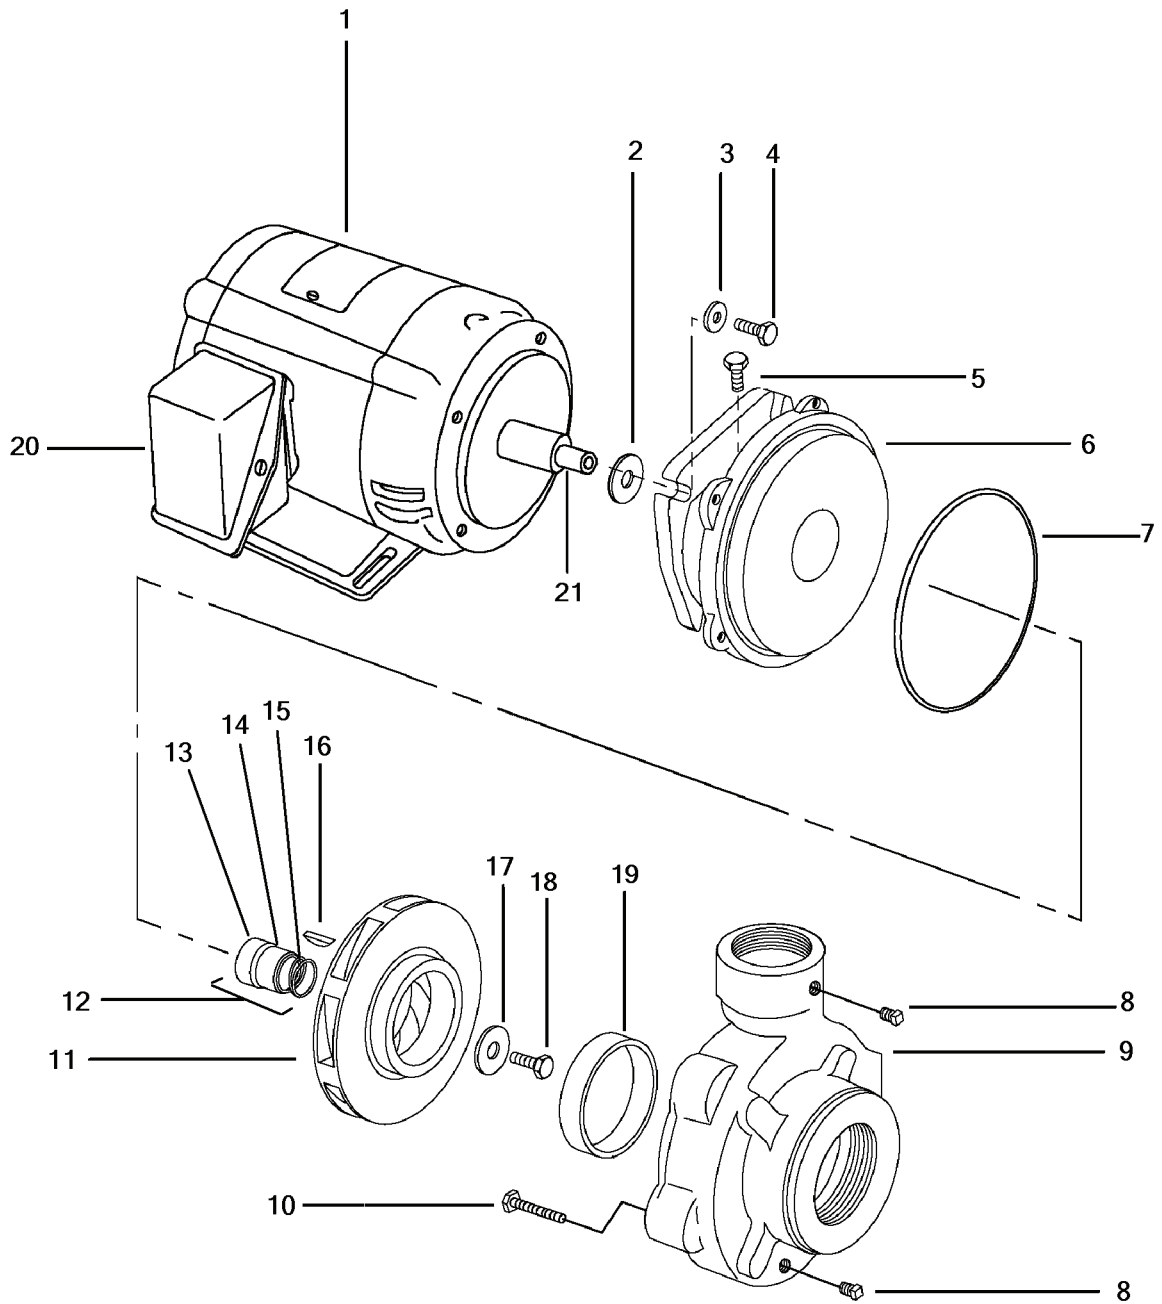
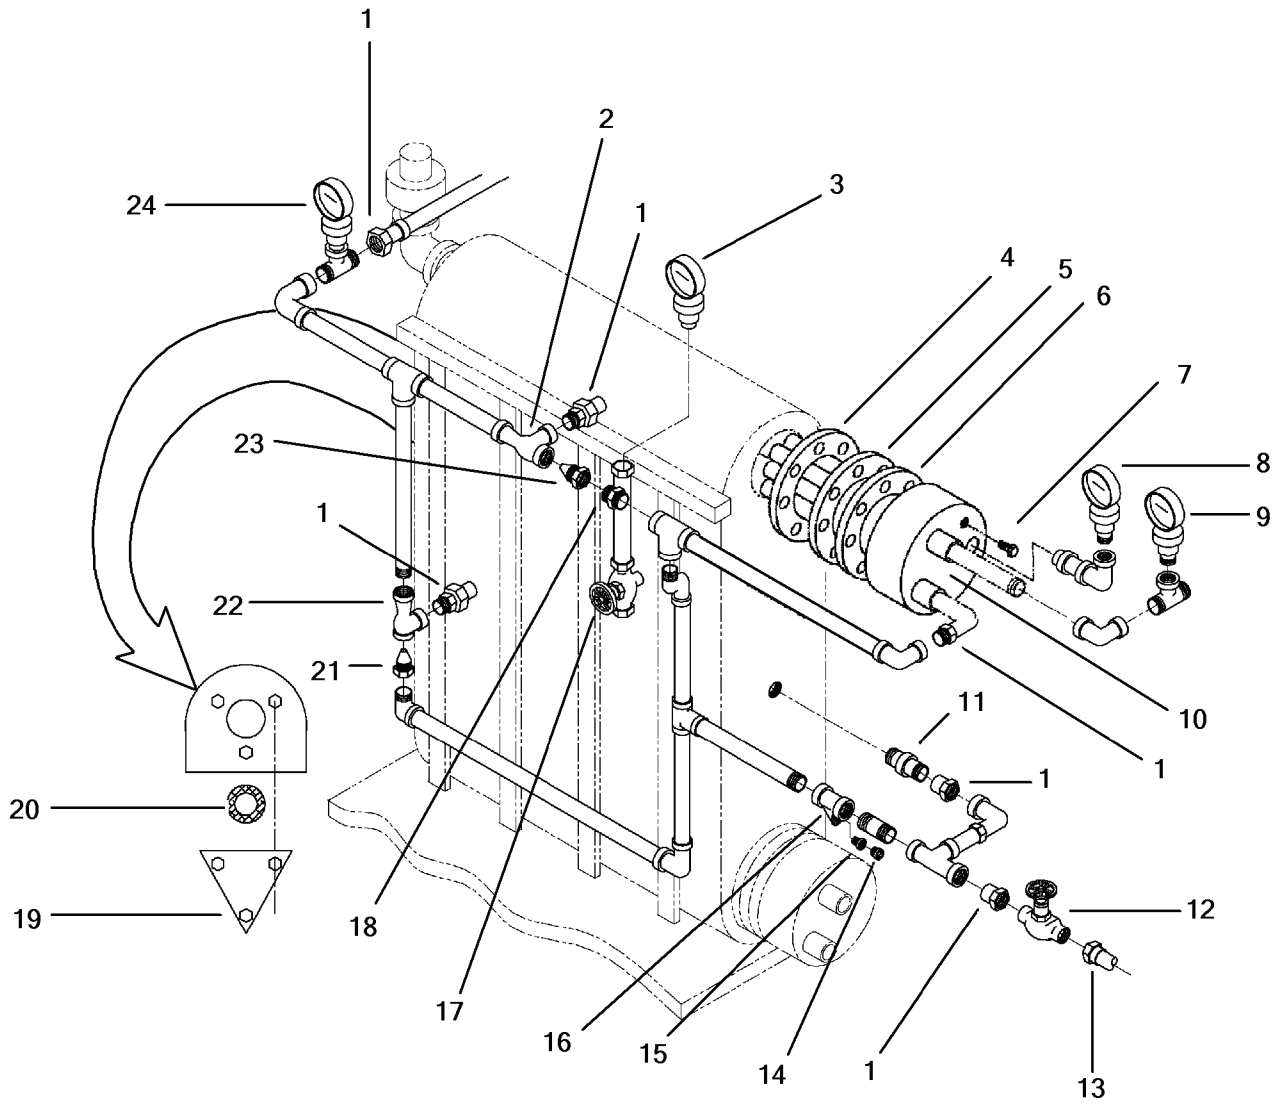

Figure 2-11. Jacket Water Pump.
Figure 2-12. Feed Water Piping Group.
2-18. Jacket Water Pump Assembly. (Figure 2-11)
To remove Jacket Water Pump (Figure 2-11), proceed as follows:
To replace the Jacket Water Pump (Figure 2-11), proceed as follows:
- a. Removal of the piping group (Figure 2-12), proceed as follows:
- (1) Place container under wye strainer (16) to catch remaining feed water.
- (2) Remove cap (14) and strainer basket (15) and allow draining of piping system.
- (3) Place container under brine jet pump (22) to catch remaining feed water.
- (4) Loosen the brine jet pump (22) union fitting (1) to drain remaining water from piping.
- (5) Disconnect the six union fittings (1) and remove the piping group.
- (6) Remove the feed orifice (11) from Waste Heat Evaporator shell and ball valve (12) from fitting (13) after the piping group is clear.
- b. Removal procedures for the Vacuum Jet Pump (2) connected to treaded piping, and the Brine Jet Pump (22) connected to a male/male coupling (18) are the same, (Figure 2-11), proceed as follows:
- (1) After the piping group is removed the jet pumps (2 or 22) can be removed by disconnecting from the appropriate piping.
- (2) Remove the jet pump nozzles (21 or 23) by unscrewing from the jet pumps.
- c. Removal of the Freshwater Condenser Bundle (5) can only be accomplished after steps a.1 through a.5 have been completed.
Repair is by replacement of the Jet Pumps (2 or 22), Feed Orifice (11), Freshwater Condenser Bundle (5), pressure gauge (8), temperature gauges (9 or 24) and damaged or worn associated piping (Figure 2-12):
- (1) Remove applicable associated pipe fittings as describe in removal procedure a.
- (2) Install new applicable pipe fitting as described in replacement procedures.
- b. To replace the Vacuum Jet Pump (2) and the Brine Jet Pump (22) proceed as follows:
- (1) Install the jet pump nozzles (21 or 23) into the jet pumps.
- (2) Reconnect the appropriate piping.
- c. To replace the piping group (Figure 2-12), proceed as follows:
- (1) Replace the feed orifice (11) into the Waste Heat Evaporator shell, and the ball valve (12) into fitting (13).
- (2) Place the piping group into position.
- (3) Connect all six union fittings (1) and tighten.
- (4) Replace the strainer basket (15) and cap (14).
- d. To replace the Sight Glass (19), proceed as follows:
2-20. Relief Valve. (Figure 2-12 and 2-13)
- a. Open the vacuum release valve (17, Figure 2-12) to equalize internal pressure.
- c. Close the vacuum release valve (17, Figure 2-12).